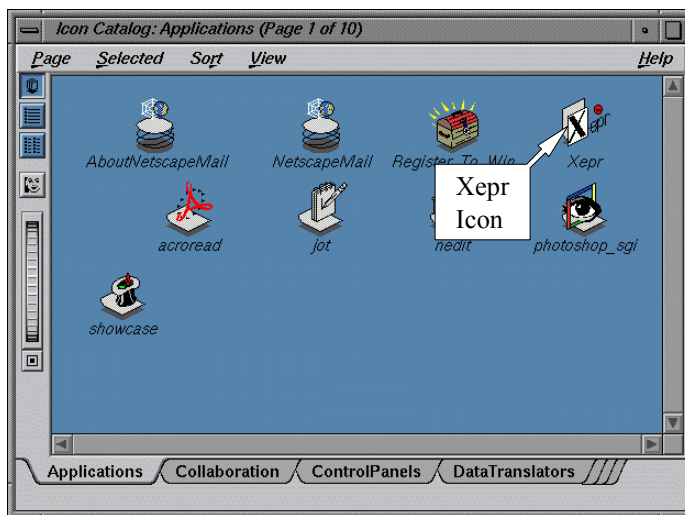

Figure 15-2 The Xepr icon.
2. **Setup a desktop icon for Xepr.** In the **Applications** icon window you can find the Xepr icon. (See Figure 15-2.) Drag the icon onto to the desktop. Now you can launch the Xepr software from the Desktop.